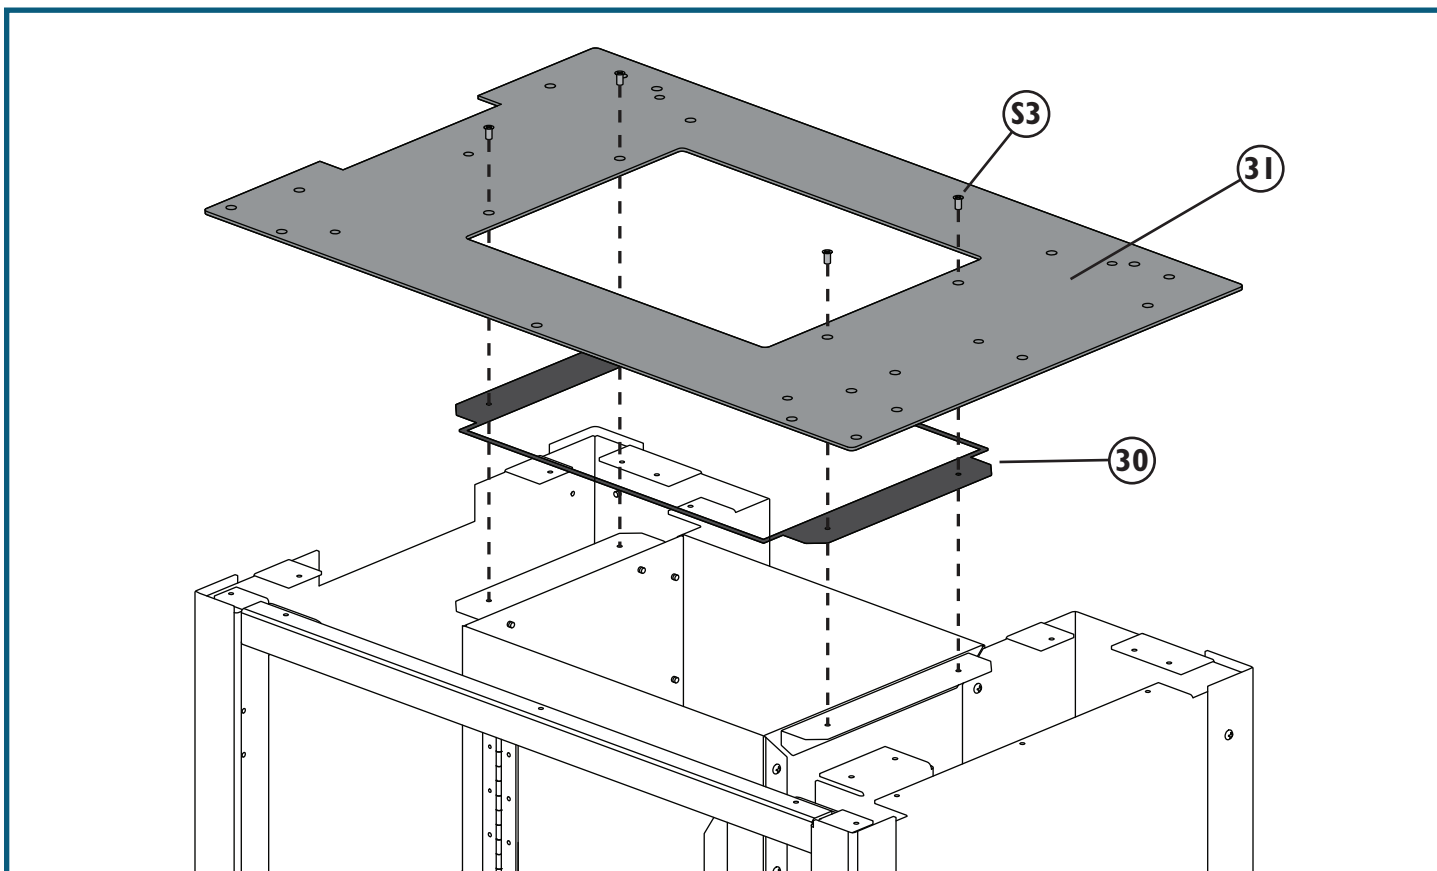

Fig. 20
2. Position the flexible Anti-Vibration Pad (30) on top of the assembled Dust Bucket, aligning the mounting holes, and then position the Cabinet Top (31) on top of that. Be careful not to shift the pad's position, and make sure that the long edge of the Cabinet Top that has the screw hole near the center is at the front of the Cabinet. Drive four M4 x 3/8" Flat-Head Self-Tapping Screws (S3) to secure the Cabinet Top and Anti-Vibration Pad to the Dust Bucket. **Fig. 20.**